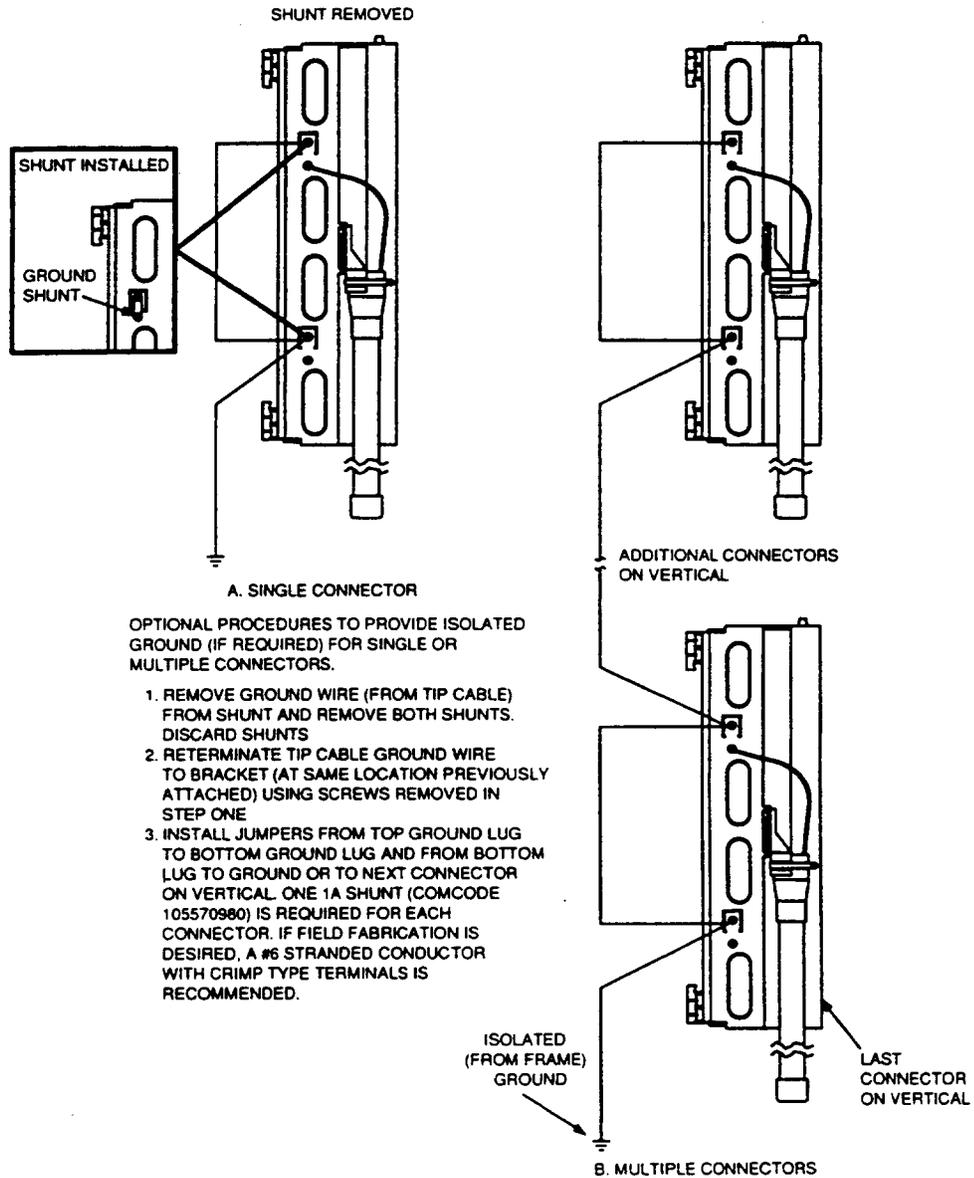

Figure 6. Converting to Isolated Ground System
3.09 The 311-type connector can be grounded to the frame in the standard arrangement or converted to an isolated ground. The method of converting the ground shunt to an isolated ground system is shown in Figure 6.